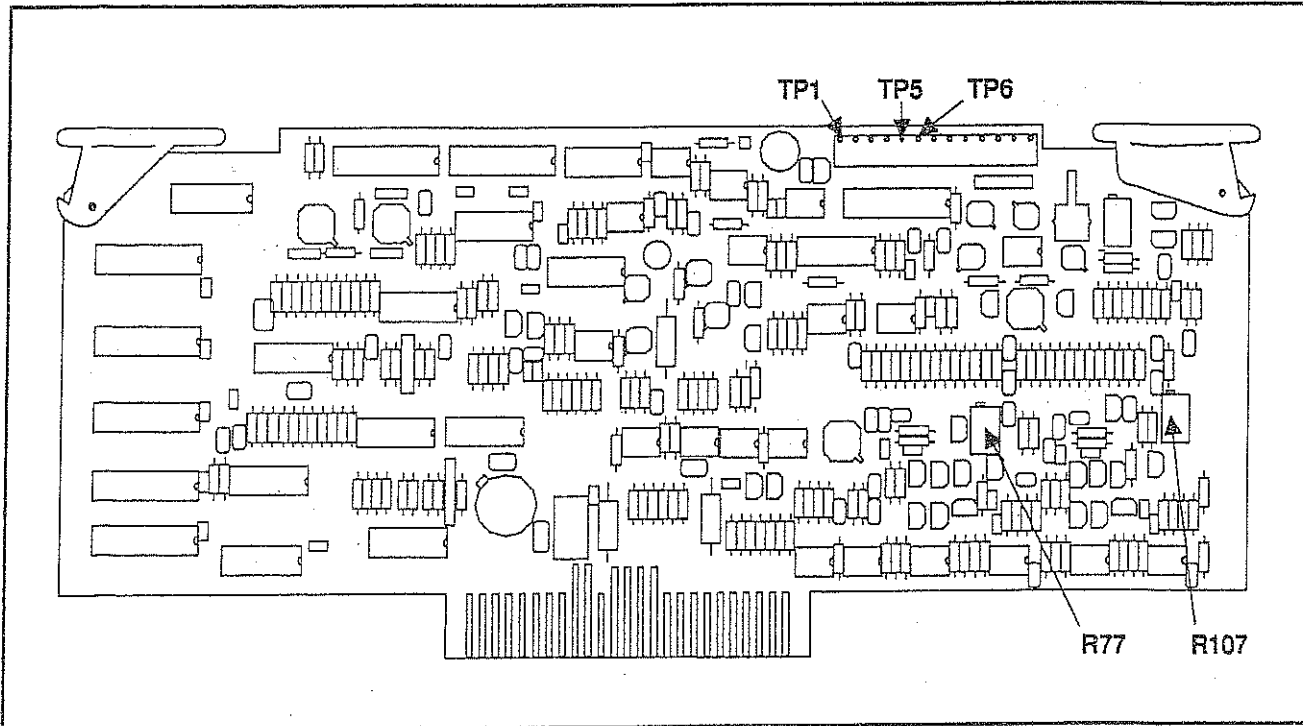

Figure 3-4. A15 ALC PCB Test Point and Adjustment Locations
3. On the 67XXA A15 PCB, adjust A15R77 for 0 Vdc \pm 50 μ Vdc (see Figure 3-4). Record this voltage on the Test Record.
3. On the 67XXA A15PCB, adjust A15R107 for 0 Vdc \pm 50 μ Vdc (see Figure 3-4). Record this voltage on the Test Record.